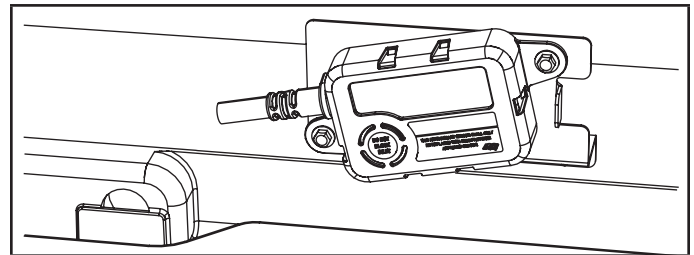

**FIGURE 17**
- 1 - Select bracket 626313-01 from the kit. Bracket will look like figure 17.